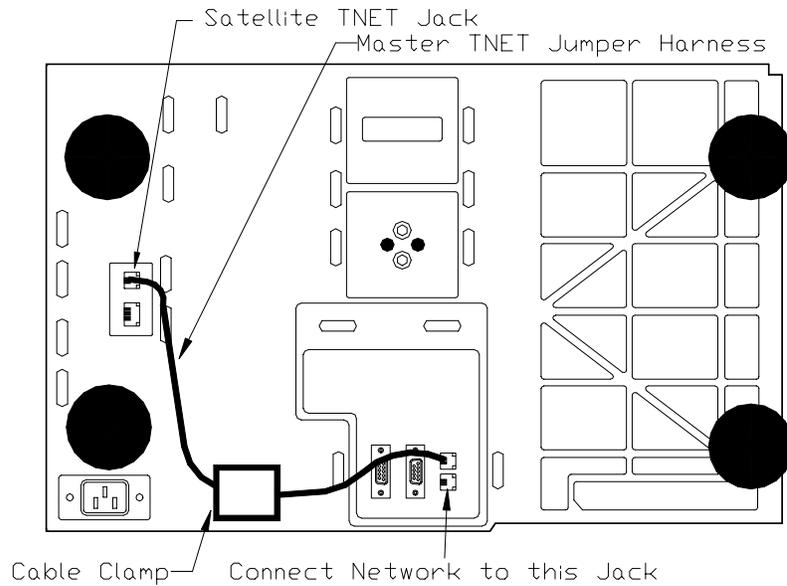

Figure 4-2
To connect the master on the TNET network, a jumper harness connects for both the Satellite CPU and the Master CPU on the network. In this case, the TNET connection would be made on the I/O PCB, as shown in Figure 4.2. All access to the master editor is through 8460 satellites on the network, including the internal Satellite in the master.
1. Check the jumper from the satellite TNET port on the Mother PCB to the I/O Logic PCB (Figure 4-2).